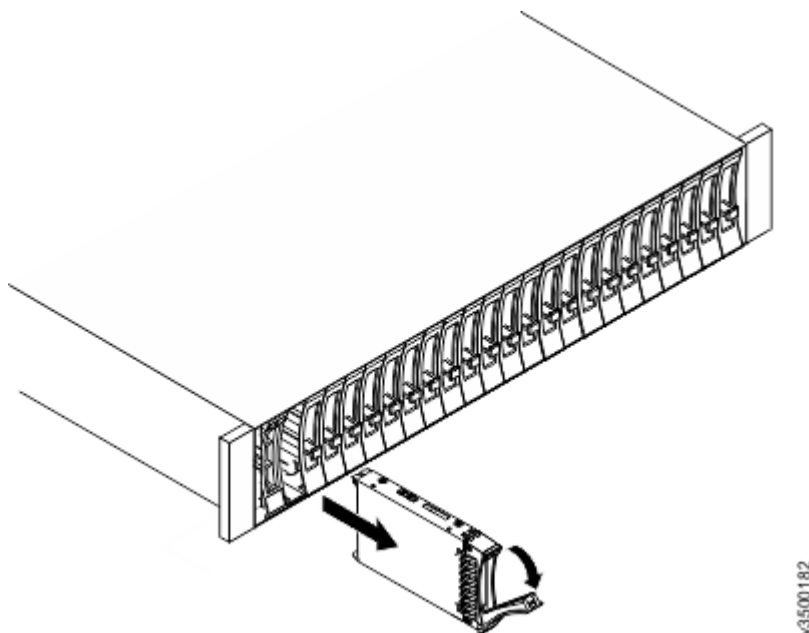

Figure 87. Unlocking and removing a 2.5-inch drive from its slot
5. Pull out the tray handle to the open position (see Figure 87 on page 132).